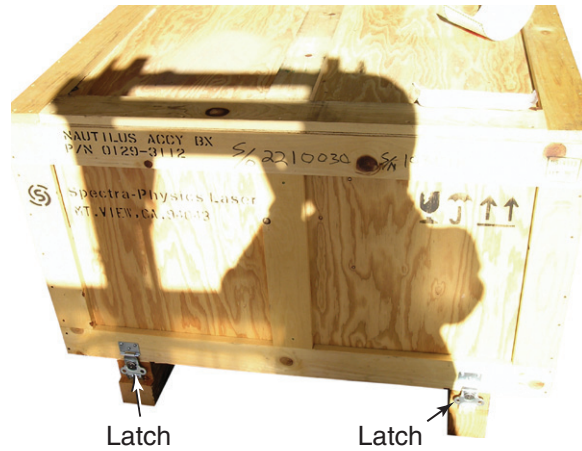
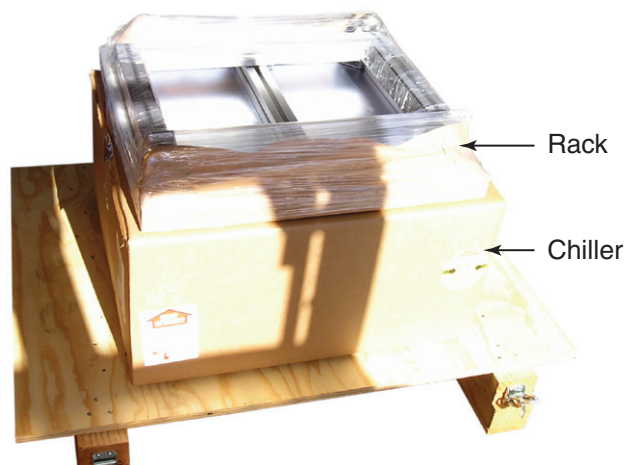

Figure 6: The chiller and rack crate, 2 latches on each side.
Figure 7: The Chiller and Rack
18. Referring to the small crate shown in Figure 6, turn the latch handles to release the clamps, then lift off the top cover. The rack is fastened to the top of the chiller box as shown in Figure 7.